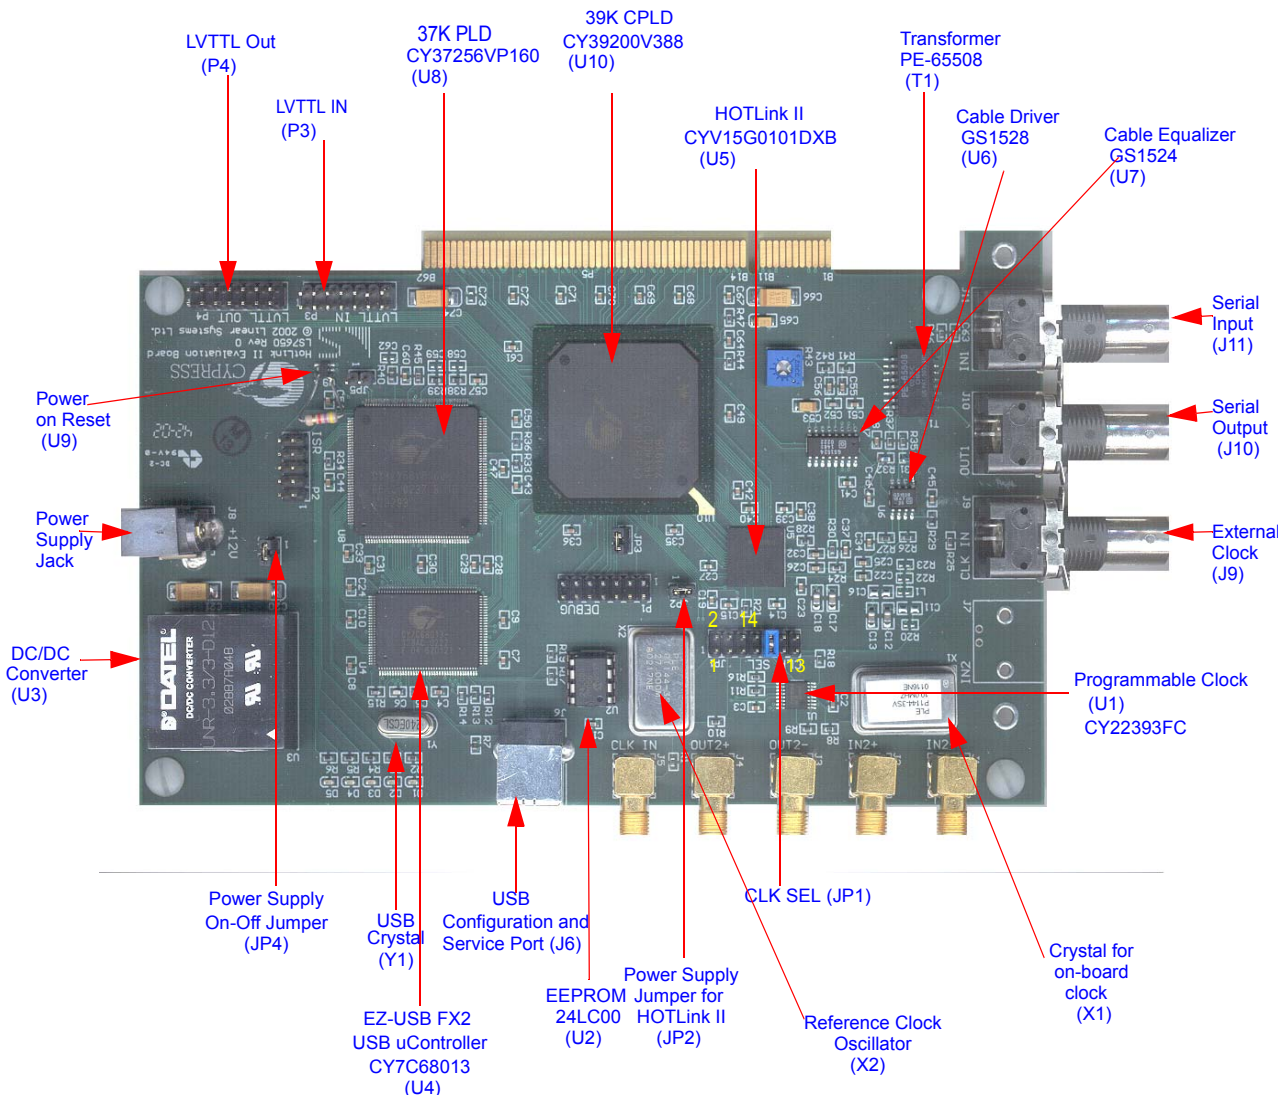

Figure 2-1. Top View of Video Board
| Figure 2-1. Top View of Video Board | 5 |
1. HOTLink II video board, as shown in *Figure 2-1*.
(as indicated in *Figure 2-1*). The transmit channel of the HOTLink II transceiver accepts parallel characters into its input register and converts them to serial data, after encoding if necessary. The receive channel accepts serial data and converts it to parallel data. The input and output data are received and transmitted through BNC connectors (J11 and J10 on board) and/or SMA connectors (J1, J2, J3 and J4 on board). A power supply jumper JP2 on board (shown in *Figure 2-1* and described in *Table 2-1*) can be used to measure the current drawn (and hence power consumed) by the HOTLink II transceiver. To do this, simply remove JP2 and place an ammeter across the pins to measure the current that is drawn by the HOTLink II transceiver alone. The data input and output BNC connectors, J11 and J10, are connected to a transformer located next to the BNC connectors.
The Delta39K CPLD (U10 on board) is used to configure the HOTLink II transceiver. The internal memory feature of the Delta39K CPLD can be used for frame buffering, which is essential to most video applications. The Delta39K CPLD can be configured as an SMPTE scrambler/descrambler via the EZ-USB FX2 USB microcontroller (CY7C68013), labelled as U4 on board, through the USB configuration and service port (J6 on board). The USB microcontroller requires a 24-MHz crystal, labelled Y1 on board. A EEPROM (24LC00), labelled U2, provides the initial configuration information to the USB microcontroller. The USB microcontroller is also used to configure the programmable clock. The Cypress programmable clock (CyClocksRT), labelled U1 on board, can provide up to six outputs, configurable from three integrated PLLs. It has a 10-MHz reference crystal labelled as X1 on board, and shown in *Figure 2-1*. The CyClocksRT programmable clock is serial-programmable and has configurable output buffers.